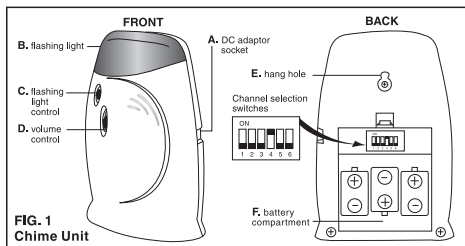
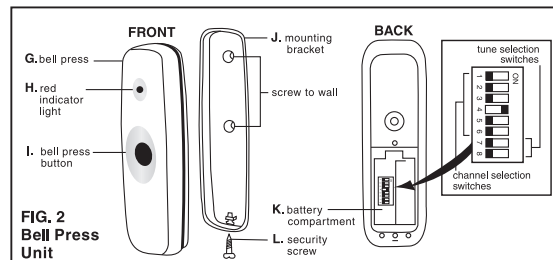

FIG. 1 Chime Unit
FIG. 2 Bell Press Unit
The Chime Unit (Fig. 1) can be powered by 3 x 'C' size batteries (not included) or can be plugged in to a powerpoint using the external DC adaptor socket (Fig. 1 A) (adaptor not included).
**IF USING DC ADAPTOR:** Simply plug a 9V DC adaptor into the DC adaptor socket (Fig. 1 A), plug the other end of the adaptor into any standard 240V power point and switch the power point ON.
**Step 1:** Remove the cover of the Battery Compartment (Fig. 1 F)
**Step 2:** Insert 3 x 'C' size alkaline batteries into the Battery Compartment (Fig. 1 F) ensuring the (+) end of the batteries are at the (+) in the Battery Compartment.
**Step 3:** Replace Battery Compartment cover. The Chime Unit is fully portable. It is free-standing and can be placed anywhere in the home. It can also be fixed to a wall by using the slotted hang hole (Fig. 1 E) on the back. The Chime Unit is not weatherproof. Do not expose to rain or immerse in water.
**Step 1:** Remove the security screw at the bottom of the Bell Press Unit. - (Fig. 2 L)
**Step 2:** Remove the Bell Press (Fig. 2 G) from the Mounting Bracket (Fig. 2 J). Open the Battery Compartment cover on the back of the Bell Press. Insert 12V battery provided into the Battery Compartment (Fig.2 K) ensuring that the (+) end of the battery is at the (+) in the Battery Compartment. Replace Battery Compartment cover.
**Step 5:** Press the Bell Press Button (Fig.2 I) to ensure that the red indicator light (Fig. 2 H) illuminates, indicating that the battery is correctly installed, and to test satisfactory operation. The Bell Press is suitable for outdoor use, however for best performance and a longer life the Bell Press should not be exposed to direct sunlight or rain.
**Step 6:** Secure the Mounting Bracket (Fig. 2 J) using the 2 x screws/wall plugs or double sided tape provided. To ensure that the weatherproofing is maintained, mount the Bell Press in upright position. The Bell Press (Fig. 2 G) can then be inserted into the Mounting Bracket (Fig. 2 J) and securely fastened at the bottom using the security screw supplied (Fig. 2 L).
Press the Bell Press Button (Fig. 2 I) to sound the Chime Unit. Press again to repeat the chime. The operation and range of your HPM Door Chime will depend on location, temperature and battery condition.
Inside the Battery Compartment of both the Bell Press (Fig. 2 K) and the Chime Unit (Fig.1 F) there are 6 Channel Selection Switches. It is essential that the Channel Selection Switches be in the same position on both units for them to recognise each other. In the event that your Door Chime Unit sounds without your Bell
**Step 1: On the Bell Press Unit** - The Channel Selection Switches are the first 6 switches located inside the Bell Press Battery Compartment (Fig. 2 K). Remove the Bell Press (Fig. 2 G) from the Mounting Bracket (Fig.2 J). Open the Battery Compartment cover on the back of the Bell Press. Select a different channel by moving one or more of the 6 Channel Selection Switches to the ON position.
**Step 2: On the Chime Unit** - The Channel Selection Switches are located inside the Battery Compartment (Fig. 1 F). Move the Channel Selection Switches so that they correspond exactly to the Channel Selection Switch positions you have set on the Bell Press Unit. Test to ensure correct operation.
Inside the Battery Compartment of the Bell Press Unit (Fig. 2 K) there is a row of 8 switches. The last 2 switches are for Tune Selection and represent the 2 tunes available - Ding Dong or Westminster. To change the tune, simply select the other Tune Selection Switch.
The Volume Control (Fig. 1 D) enables you to adjust the volume of your HPM Door Chime (HIGH or LOW) or turn it OFF completely.
The Flashing Light Control (Fig. 1 C) enables you to have a light (Fig. 1 B) flash when the Door Chime Unit is activated. This can be in addition to or instead of the tune sounding. Simply position the Flashing Light Control (Fig. 1 C) in either the ON or OFF position. Perfect for hearing impaired, families with children, shift workers not wanting to be woken or if there is loud background noise eg. when vacuuming.